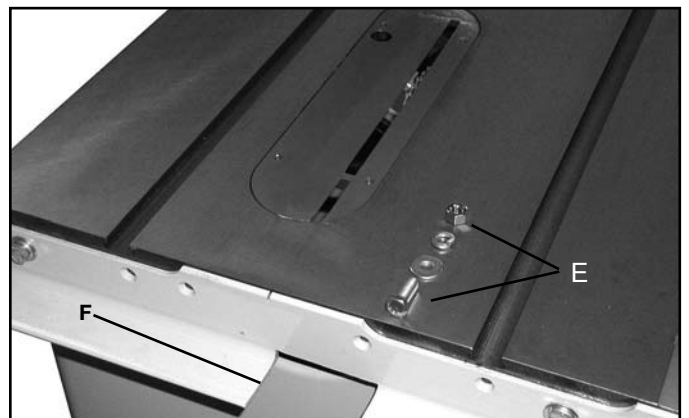

FIG. 9
Fasten rail to the saw using the two 3/8-24 x 1-1/4" hex head screws, lock washers, flat washers and hex nuts (E) supplied, Fig. 9. The lock washer, flat washer and hex nut will be on the inside edge of the saw table.
- After fastening the rear rail to the saw table, tilt the saw blade to make certain there is no interference between the guard splitter and the rear rail. If there is, it will be necessary to enlarge the cut-out (F), Fig. 9, in the rear rail.